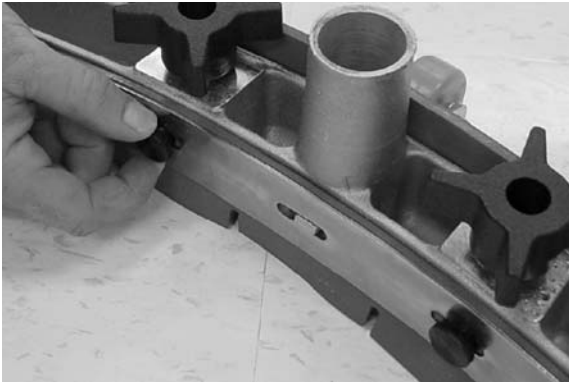

FIG. 38
2. Remove the six thumbscrews holding the retainer and squeegee blade to the squeegee frame. Rotate the squeegee blade end for end to allow a new edge to face the front of the machine. Make sure the notched edge of the blade is facing downward (Figure 38).